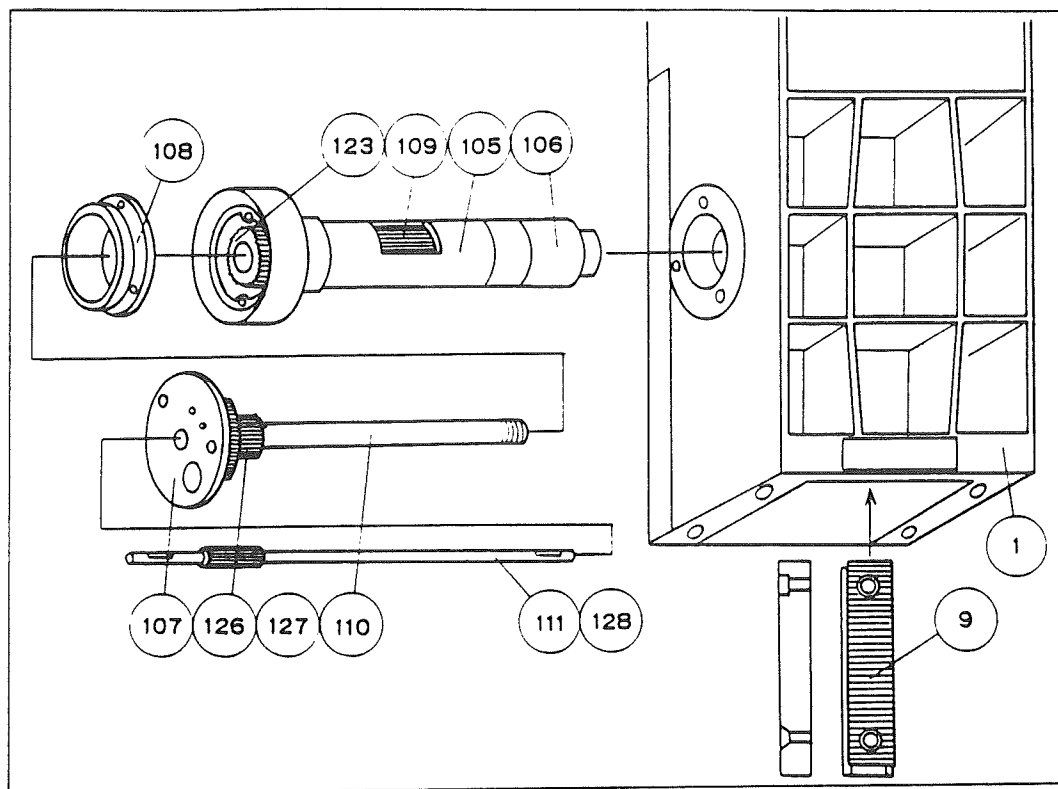

Fig. 37
- 8) Insert the subassembly consisting of (107) (coarse focus case) and (110) (coarse focus shaft) and (126) and (127) (gears), as shown in Fig. 37 (apply oil to (110) as shown in Fig. 10).